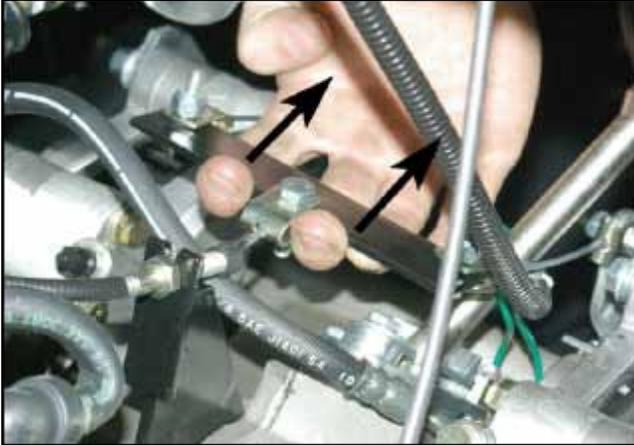

Figure 7-21. Equalizer Flat Bar.
3. Locate the 850-72 Parking Brake Adjustment Bracket attached to the top of the transmission. Figure 7-20. Adjust to remove any slack in the cable that may be present between the brake lever, and the brake cams at the emergency/parking brake calipers. This may require physically pulling down on the equalizer flat bar to ensure all slack is eliminated. See Figure 7-21.